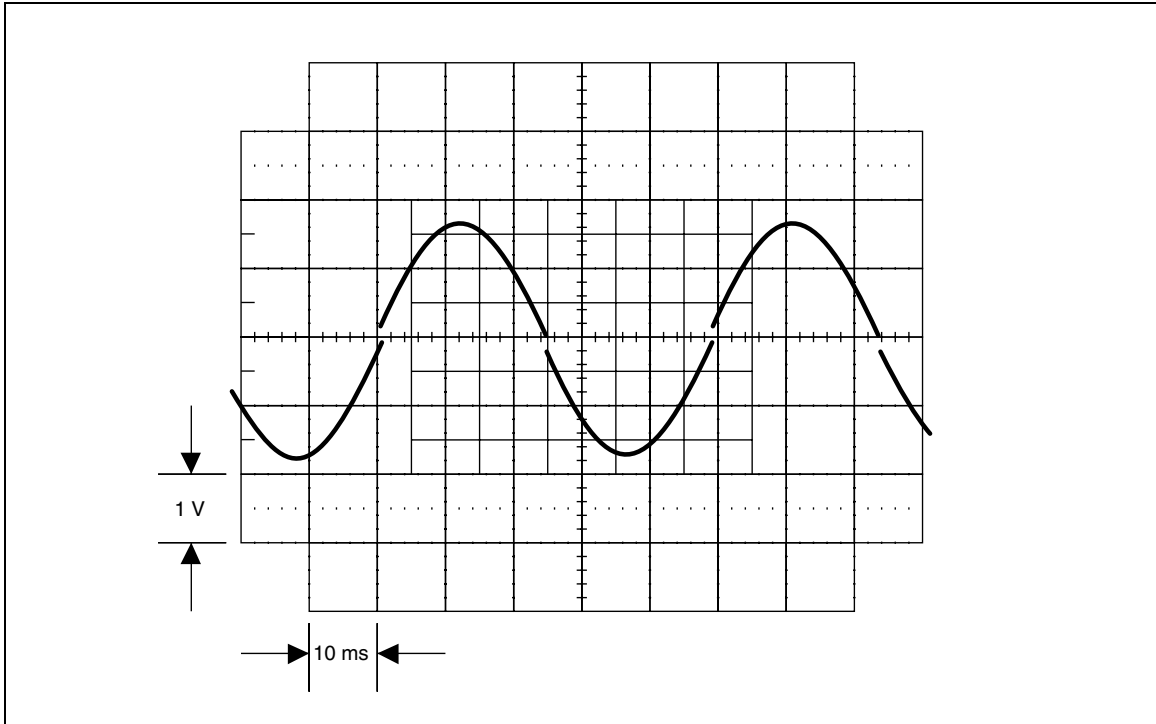

Figure 5-27. Waveform at Anode of CR4
4. Check the RECTIFYING AMP circuit. Connect an oscilloscope to the anode of CR4 (common to TP2). Set the oscilloscope to 2V/div. and 200 us/div. The oscilloscope should display a signal as in Figure 5-27. If the signal is incorrect, check U5, U7, Q3, Q4, CR4, CR5, and associated components in the RECTIFYING AMP circuit.